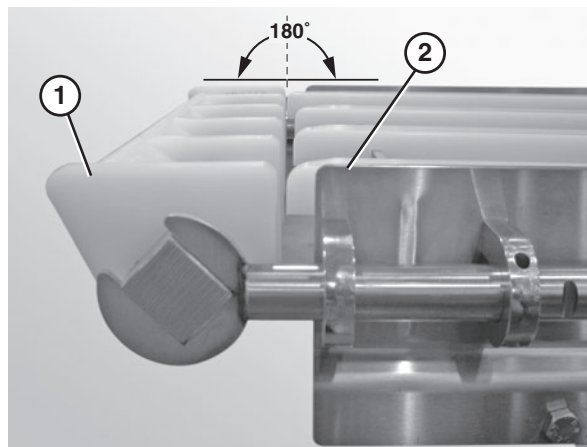

Figure 16
5. Ensure that the nose bar pucks (Figure 16, item 1) are in line with the conveyor frame (Figure 16, item 2).